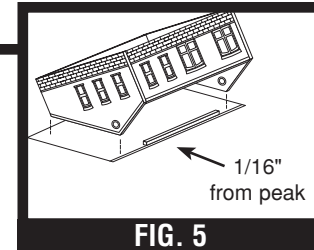

FIG. 5
7. Glue Ridge Support to large roof segment 1/16" from edge that will be the roof peak. (FIG. 5).